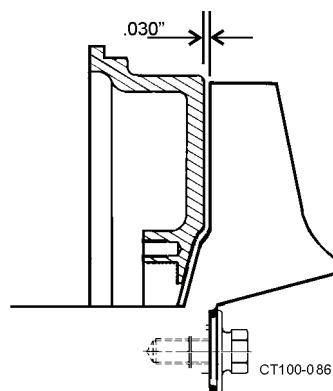
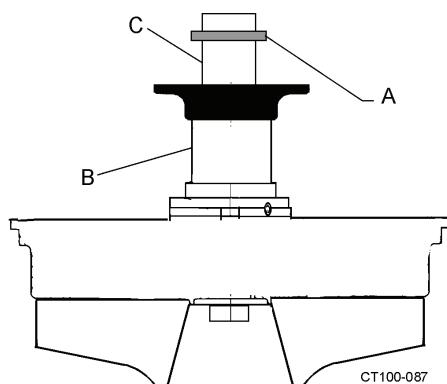

Figure 34 - Clearance Between Impeller and Backplate
Figure 35 - Locations of Shims
14. Check the space between the back of the impeller and the backplate with a feeler gauge (.030 nominal) while holding the backplate tight against the bearing housing flange. (Any axial movement of the shaft should not be added to the .030 nominal clearance). See Figure 34. If needed, change this clearance by adding or removing shims. Shims (Figure 35, item A) are added on the drive shaft (item C) behind the impeller shaft (item B).